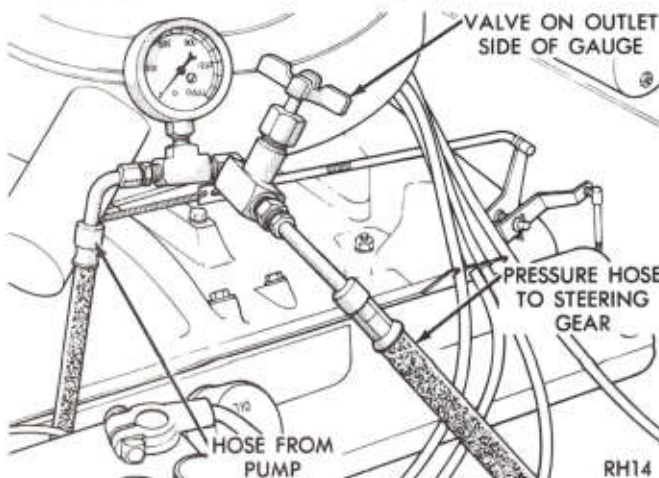

Fig. 3—Pressure Test
(2) Measure belt tension and correct if necessary. See "Cooling System", Group 7.
(3) Disconnect the high-pressure hose at the steering gear and connect the free end of the hose to the gauge side of C-3309E. Connect a second pressure hose from the valve side of C-3309E to the steering gear. The valve must be installed on the outlet side of the gauge (Fig. 3).
(4) Insert a thermometer in fluid reservoir, start engine and warm up fluid to a temperature between 150 and 170 degrees Fahrenheit (66 and 77 degrees Celsius).